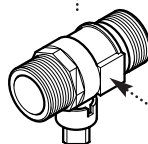

Fig. 14
2. The connection to the appliance is a 22mm copper tail. This is connected to the gas service cock (Fig. 14).